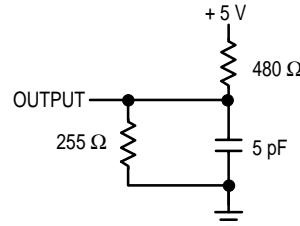

Figure 1B
5. Transition is measured  $\pm 500 \text{ mV}$  from steady-state voltage with load of Figure 1B. This parameter is sampled and not 100% tested. At any given voltage and temperature,  $t_{E1HQZ}$  max is less than  $t_{E1LQX}$  min,  $t_{E2LQZ}$  max is less than  $t_{E2HQX}$  min, and  $t_{GHQZ}$  max is less than  $t_{GLQX}$  min for a given device and from device to device.
6. Transition is measured  $\pm 500$  mV from steady-state voltage with load of Figure 1B. This parameter is sampled and not 100% tested. At any given voltage and temperature,  $t_{E1HQZ}$  max is less than  $t_{E1LQZ}$  min,  $t_{E2LQZ}$  max is less than  $t_{E2HQX}$  min, and  $t_{GHQZ}$  max is less than  $t_{GLQZ}$  min for a given device and from device to device.